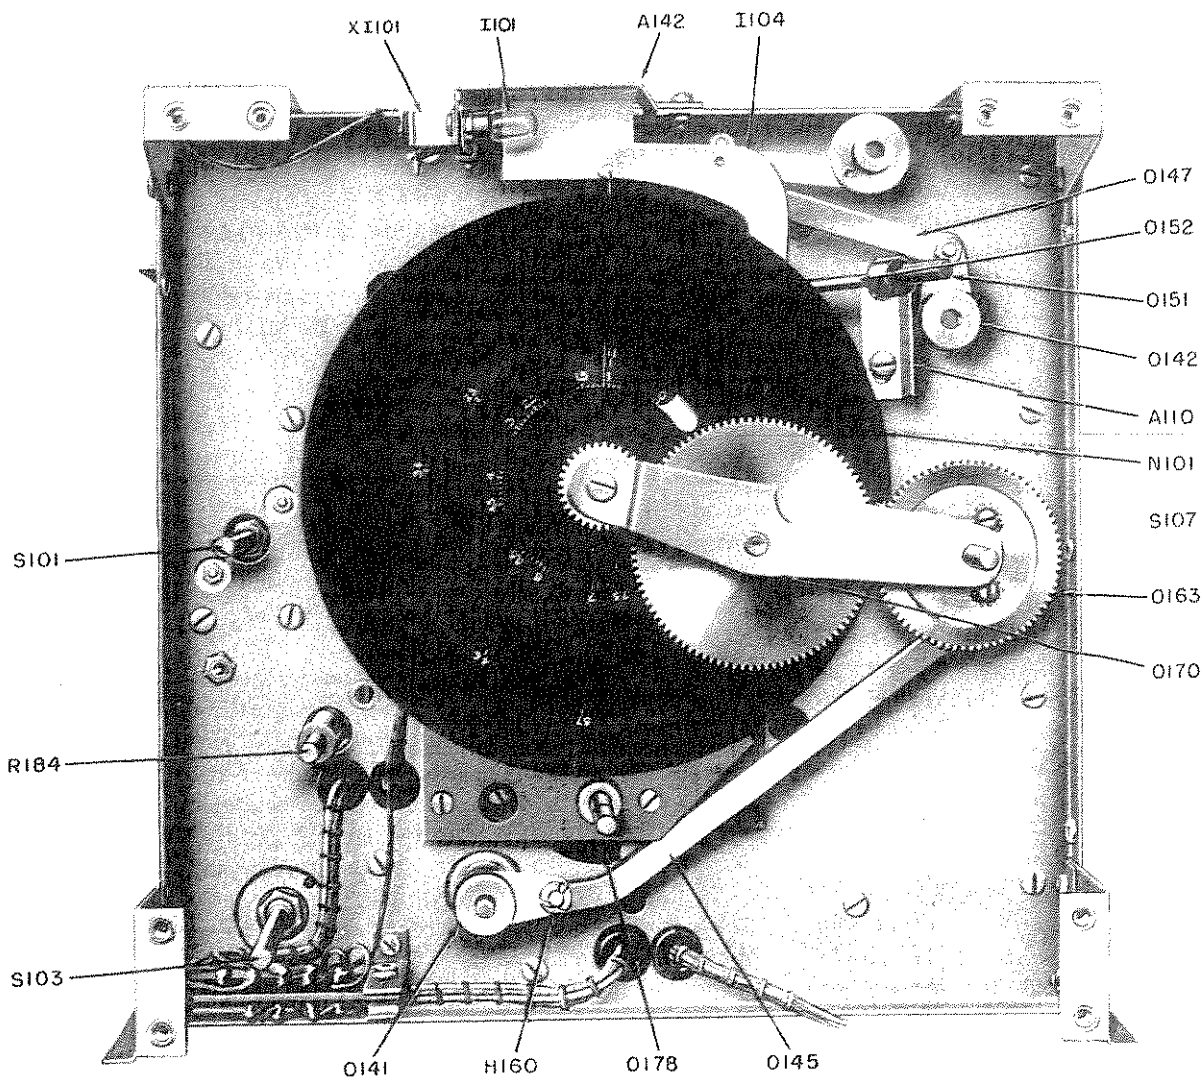

Figure 77. Radio Receiver R-395/PRD-1, view of gear train behind front panel.
- (5) Loosen the eight screws along the edges of the front panel (fig. 8) that hold the panel to the chassis. The panel can now be removed to expose the tuning mechanism assembly (fig. 77).
- (6) Remove the center screw of the hub and bracket gear assembly (fig. 77), which consists of a gear staked on a bracket (O 170). Slip the assembly off the BAND SWITCH (S107) shaft to which is attached a spur gear (O 163).
- (7) Remove the band shutter disk (O 161) and its spring washer.
- (8) Remove the pointer indicator assembly (I 104) and its spring washer by removing the spring retaining rings.
- (9) Take out the three flat-head screws holding dial scale (N101) and remove the scale. This will expose the gear train assembly, which consists of a set of five gears. The gear assembly is attached to the chassis by four hexagonal head screws. Remove the four screws and lift out the assembled unit. The gear train assembly requires no special instructions for disassembly.
c. Reassembly and Alinement of Band Shutter Assembly. To reassemble the tuning mechanism and aline the band shutter assembly, follow the steps in *a*(6) through (9) above in reverse order. The pinion gear on the tuning mechanism drives the large gear on the gang capacitor shaft. Be sure the large gear is under proper tension for minimum backlash and properly meshed with the pinion gear before tightening the four hexagonal head mounting screws; then proceed to aline the band shutter assembly as follows:
a. BAND SWITCH S107 and S102. To adjust the linkage between BAND SWITCH S107 and BAND SWITCH S102 (fig. 77), proceed as follows:
- (1) Loosen the two set screws on the hub (O 141) of BAND SWITCH S102.
- (2) Turn BAND SWITCH S107 and BAND SWITCH S102 shafts fully *counterclockwise*.
- (3) Tighten the two set screws on the hub (O 141) of BAND SWITCH S102.
- (4) Check to see that both indexes coincide and the switch contacts line up at the center of their respective contact springs.